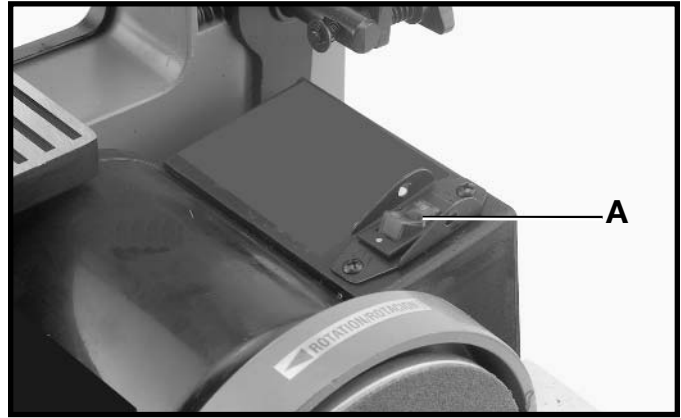

Fig. 15
The switch (A) Fig. 15 is located on the top of the switch box. To start the sander, move the switch forward to the "ON" position. To stop the sander, move the switch back to the "OFF" position.